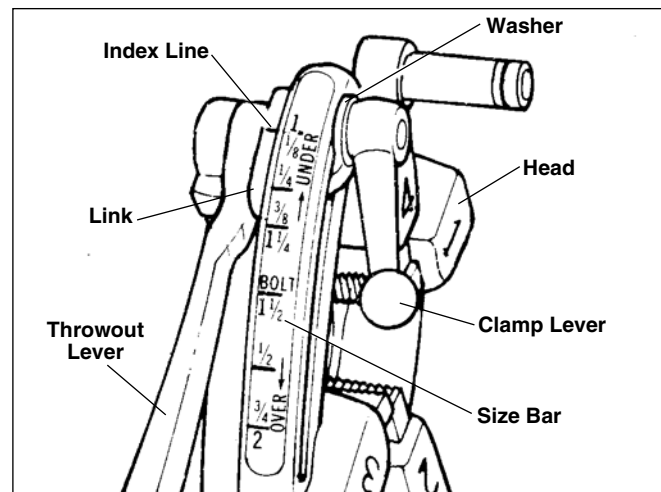

Figure 8 – Universal Quick-Opening Die Head
6. Quick-Opening 811A Die Head *(Figure 8)* – When thread is completed, rotate throwout lever to OPEN position, retracting dies.
The No. 811A Universal Die Head (*Figure 8*) for right hand threads requires four sets of dies to thread pipe ranging from  $\frac{1}{8}$ " through 2". One set of dies is required for each of the following pipe size ranges: ( $\frac{1}{8}$ "), ( $\frac{1}{4}$ " and  $\frac{3}{8}$ "), ( $\frac{1}{2}$ " and  $\frac{3}{4}$ " and (1" through 2"). Bolt threading requires a separate set of dies for each bolt size. No bolt dies are available for left hand universal die heads.